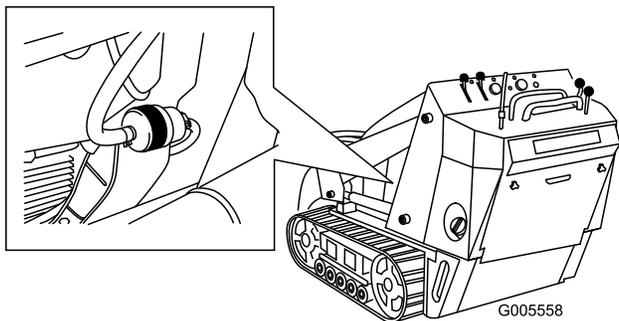

Figure 34
4. Clamp the fuel lines on both sides of the fuel filter (Figure 34).
5. Squeeze the ends of the hose clamps together and slide them away from the filter (Figure 34).